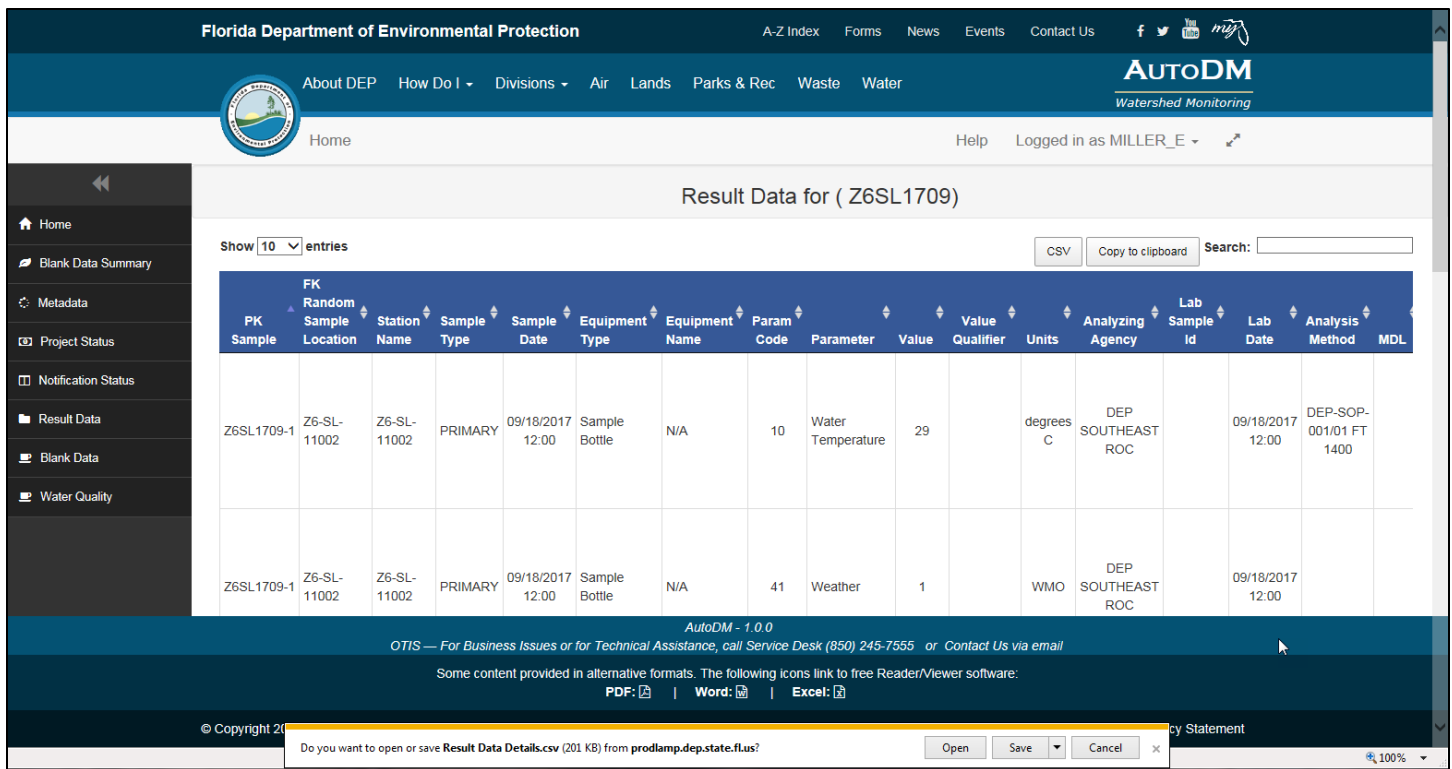

Figure 30. Screenshot of a Result Data report. Data from project Z6SL1709 is shown as an example.
6. **Result Data:** This tool generates a report that lists the data available for all samples in the selected project. Each row in the report contains the data for one analyte from one sample (**Figure 30**). The Project Manager should use this report to look for any issues with the data. If errors are present, a data correction request should be generated and emailed to the Data Manager. To generate the report in the ADM Oracle Forms interface, click the **Result Data** button. The web browser window will open and display the data in the AutoDM PHP report interface if that interface has already been opened and logged in to. If the AutoDM interface has not been opened and logged in to, the **Result Data** button will launch the AutoDM interface. Log in as described in the LOGON SCREEN & WEB BROWSER section of this document, and search for the desired project as described in the SEARCHING FOR PROJECT INFORMATION section of this document. This report can be opened as a .csv file using the AutoDM 'CSV' button or copied using the AutoDM 'Copy to clipboard' button and pasted into text-editing software or Excel. If using the 'CSV' button, a dialogue box will open at the bottom of the screen prompting the user to open or save the file. The file can then be opened and saved as an Excel file to the desired network or local drive. Note that for analytes where the result is stored only as a text value (e.g. Sediment Color) the result will not show up in this report.